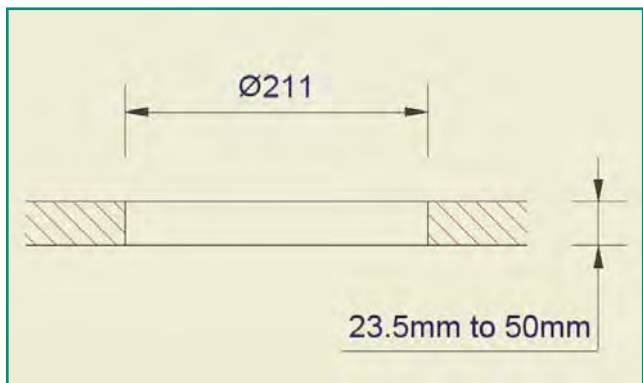

Figure 1: Hole details
- 2- Mark out on the tile the required location of the diffuser, then using the router or jigsaw cut a 211mm diameter hole as shown in (Figures 1).